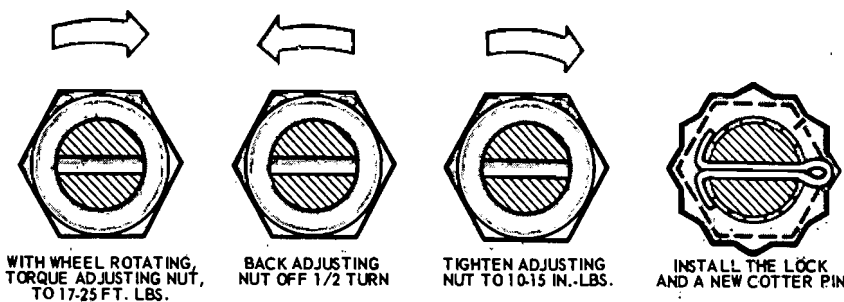

FIG. 3—Front Wheel Bearing Adjustment
4. While rotating the wheel, hub, and drum assembly, torque the adjusting nut to 17-25 ft-lbs to seat the bearings (Fig. 3).
5. While rotating the wheel, hub, and rotor assembly, torque the adjusting nut to 17-25 ft-lbs to seat the bearings (Fig. 3).